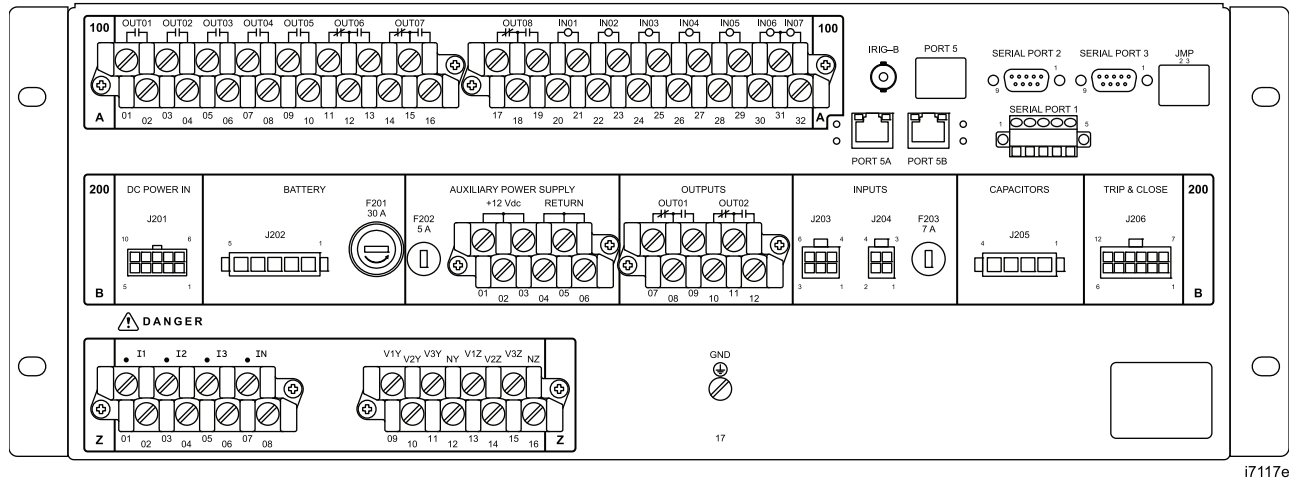

Figure 25 Rear View of the SEL-651R-2 Relay Module
- Two Form C (normally closed/normally open) standard interrupting output contacts: OUT201 and OUT202 (row 200; *Figure 25*). OUT201 is factory-programmed as an alarm output.
Order the following additional I/O (row 100; *Figure 25*):